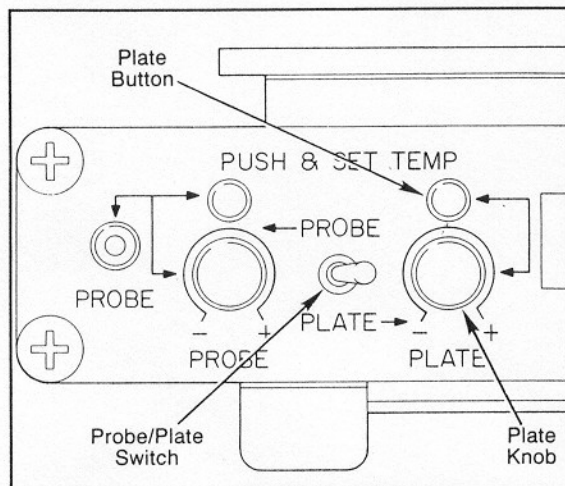

FIGURE 6. PLATE SWITCH POSITION
6. Set Probe/Plate Switch (located on front panel) to Plate position, refer to Figure 6.
7. Depress Plate Button (located above the Plate Knob), rotate Plate Knob clockwise or counterclockwise to reach the desired temperature setting. (NOTE: Observe the L.E.D. Temperature Display for preferred setting), refer to Figure 6.